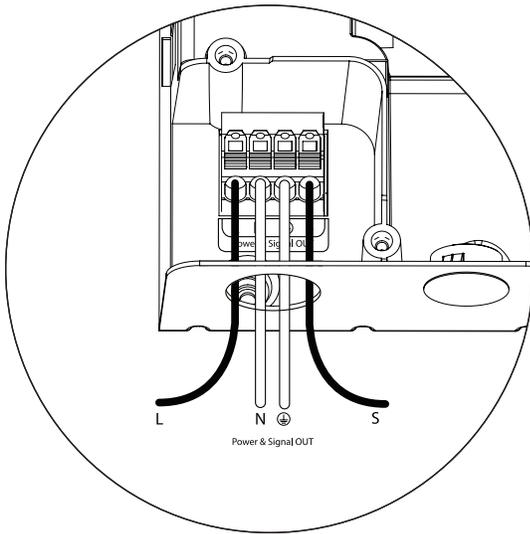

fig. 9
3. Insert appropriate conductors from leader cable (see fig. 9):